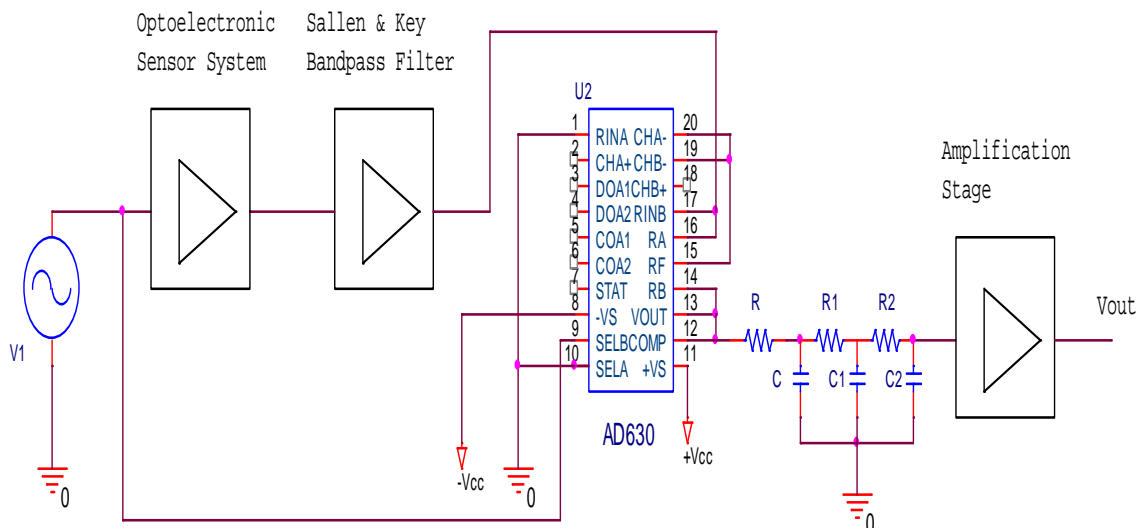

Figure 2.2. Block diagram of the system to be constructed.
The block diagram for the signal conditioning circuit to be used is shown in Figure 2.2. The different blocks are to be designed by the student and should match the following specifications:
2. Synchronous Demodulation: A balanced modulator/demodulator from Analog Devices is to be used (AD630). Use the scheme shown in Figure 2.2, to implement this functionality. Students are referred to the data sheets for this component for further details on this block
3. Low Pass Filter: Design an adequate RC filter at the output of the AD630 in order to remove the high frequency components. A ladder RC filter is proposed in Figure 2.2, but other schemes can be used (a minimum roll-off of -60 dB/dec is advised)